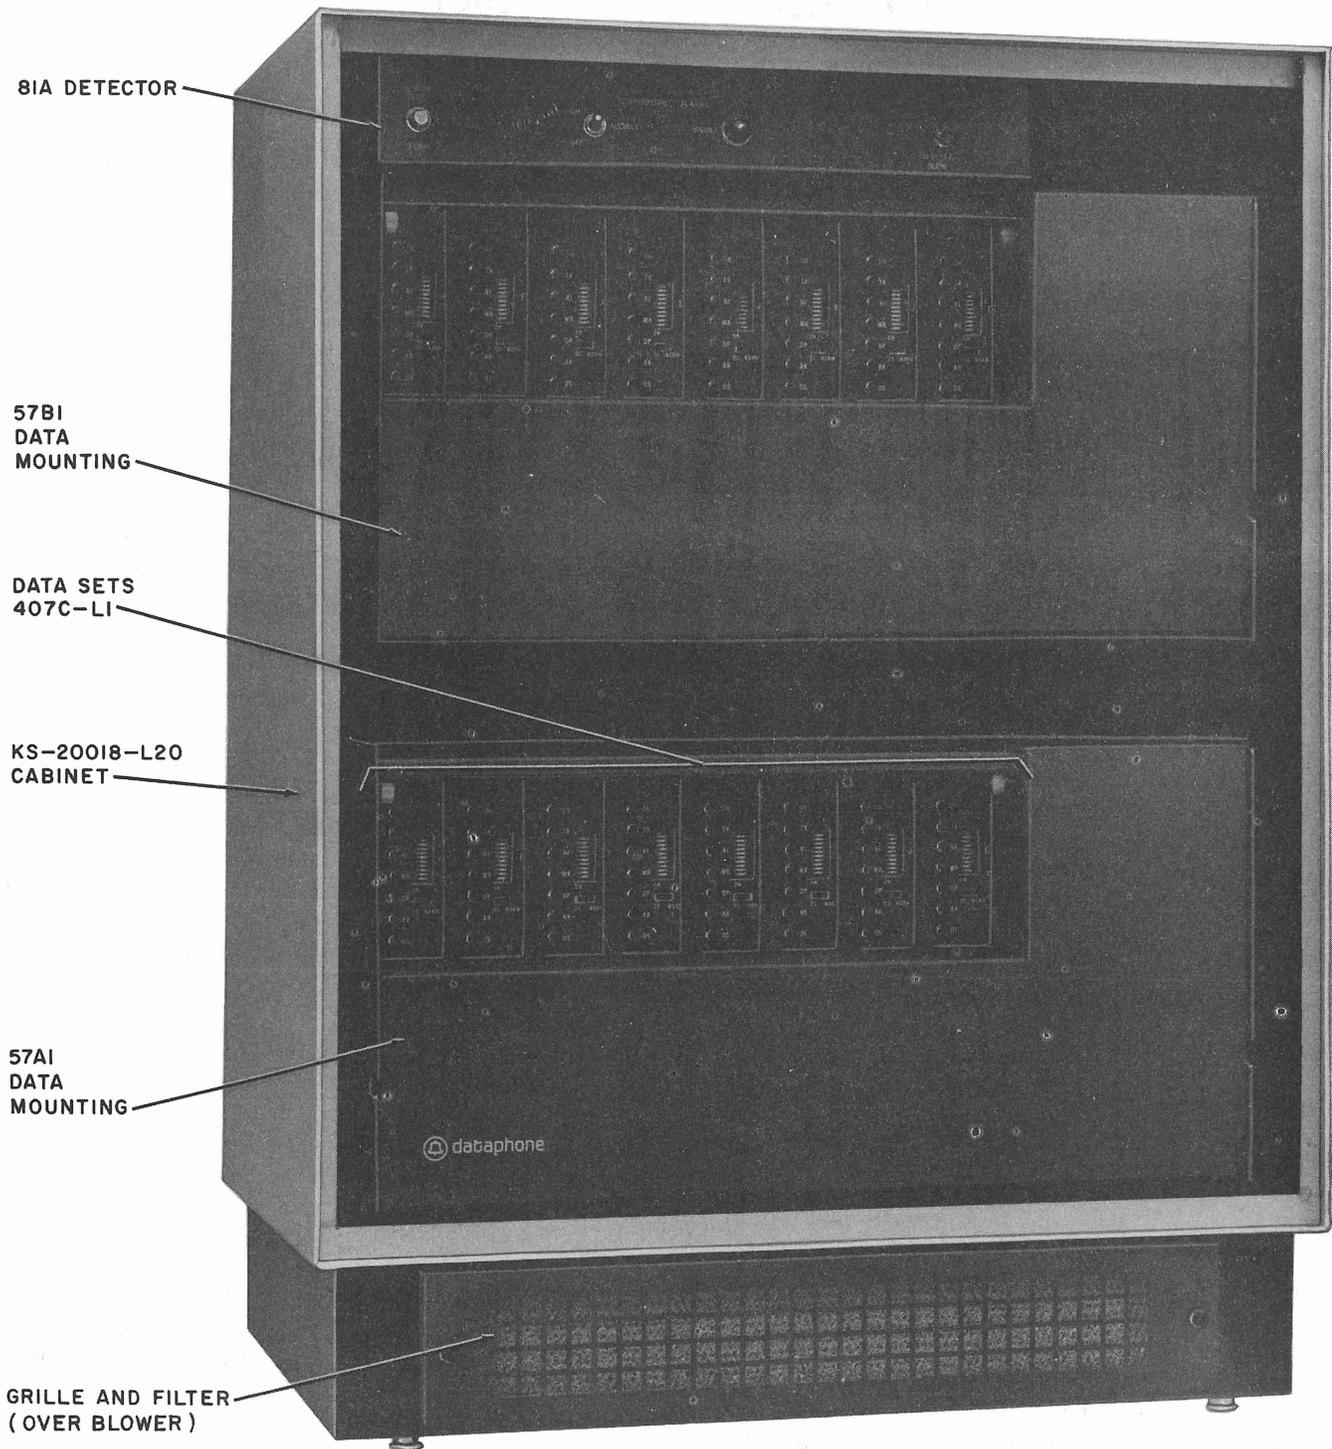
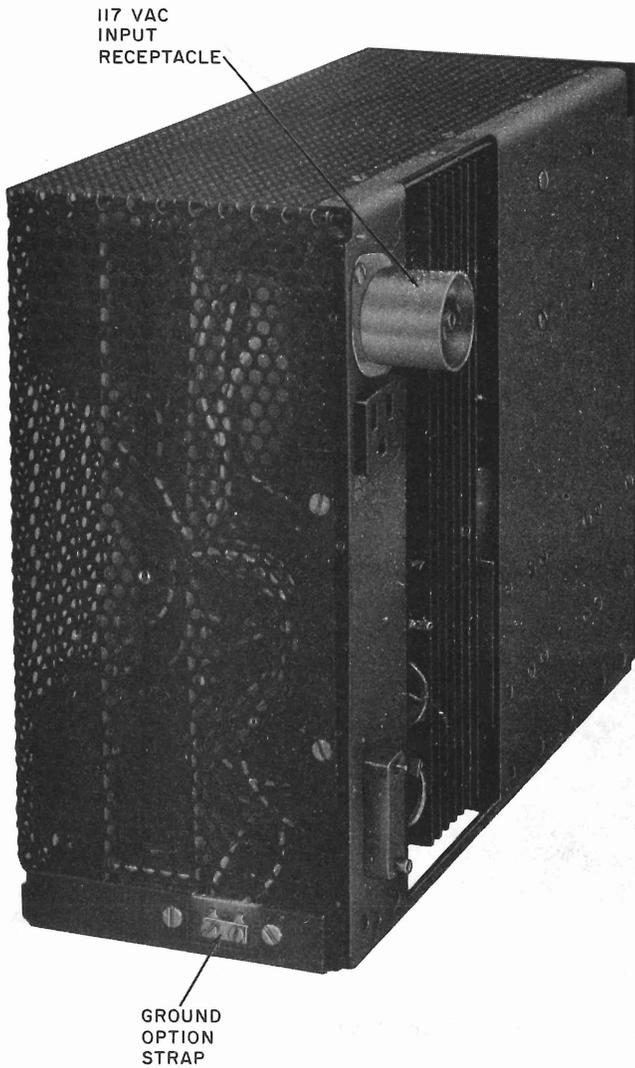

Fig. 1—Front View of 407C Multiple Data Station With Plastic Front Cover Removed
Fig. 5—229A Power Unit
1.03 The 407C multiple data station consists of DSs 407C-L1, 57-type data mounting(s) (four data sets per data mounting), and a KS-20018-L20 cabinet (Fig. 1 and 2). Both of the 57-type data mountings (Fig. 3 and 4) contain a 229A power unit (Fig. 5), but only the 57A1 contains a test
1.04 The 407C multiple data station is housed in a KS-20018-L20 cabinet. *The use of any other cabinet is not recommended because of thermal limitations.* The KS-20018-L20 cabinet can house one 57A-type and one 57B-type data mounting, with a maximum of eight data sets. A blower is provided in the bottom of the cabinet (Fig. 1), while an 81A (thermal) detector must be installed in the top of the cabinet (Fig. 1 and 6) to protect the data sets from operation above their maximum temperature limit. The 81A detector must be ordered separately. The detector will shut off all power in the cabinet, except for audible and visual alarms, when the temperature in the cabinet reaches 57° Celsius (135°F). All power is restored automatically when the cabinet temperature drops to 47° Celsius (118°F). Installations requiring more than eight data sets (16 lines) require additional KS-20018-L20 cabinets.